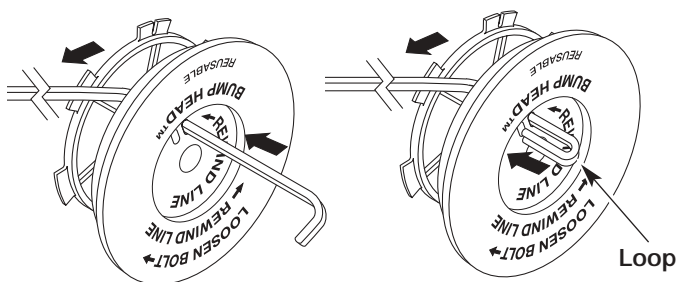

Fig. 38
- Take approximately 9 feet (3 m) of new trimming line. Insert one end of the line through one of the two holes in the inner reel (Fig. 38). Pull the line through the inner reel until only about 4 inches is left out.
- Insert the end of the line into the open hole in the inner reel and pull the line tight to make the loop as small as possible (Fig. 38).